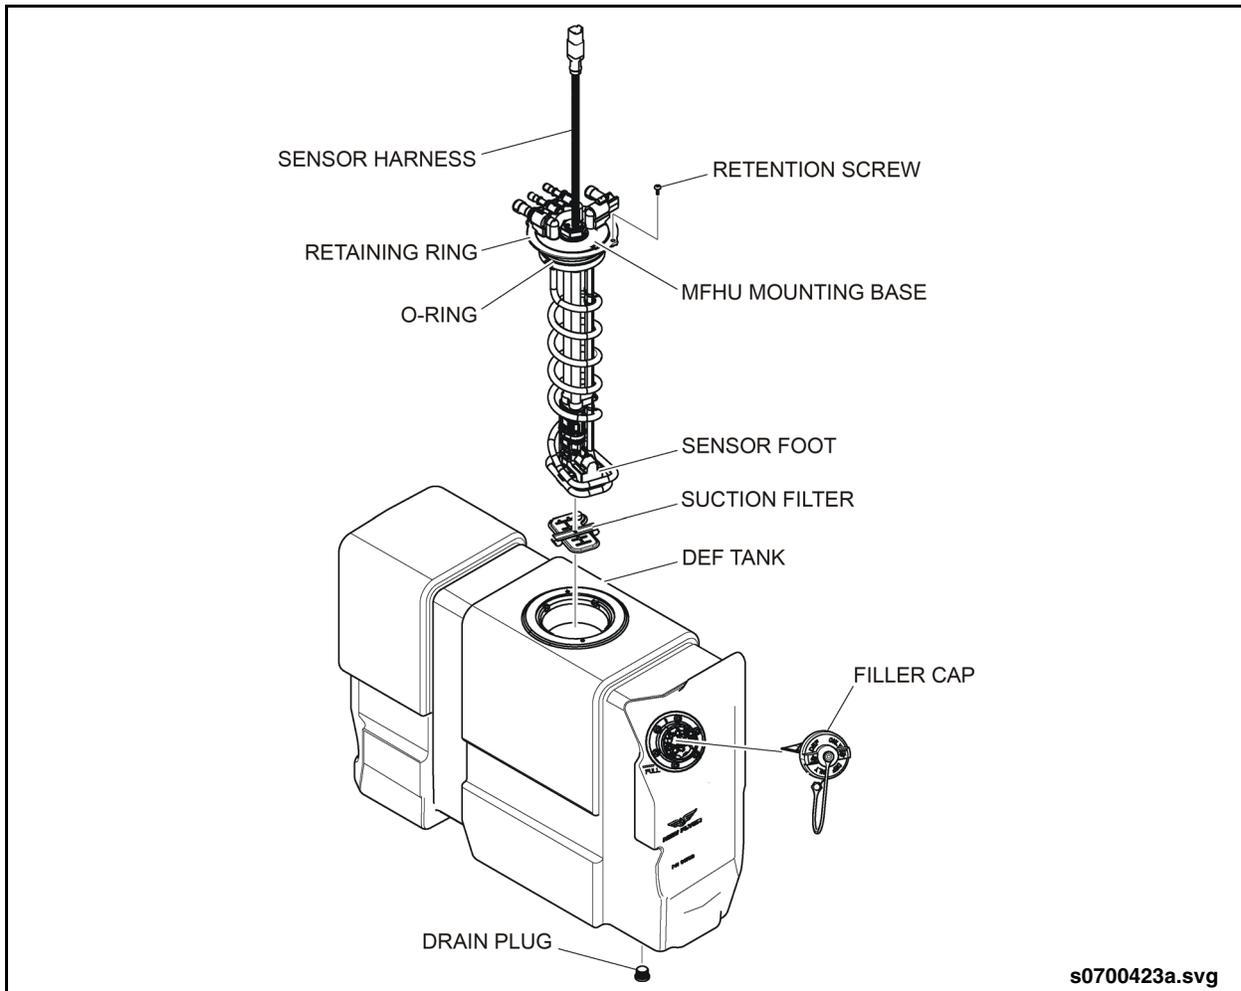

Fig. PM-1: DEF Tank MFHU
2. Disconnect the electrical connectors, coolant lines, and DEF fluid lines from the multi-function head unit assembly of the DEF tank. See “Fig. PM-1: DEF Tank MFHU” on page 3.